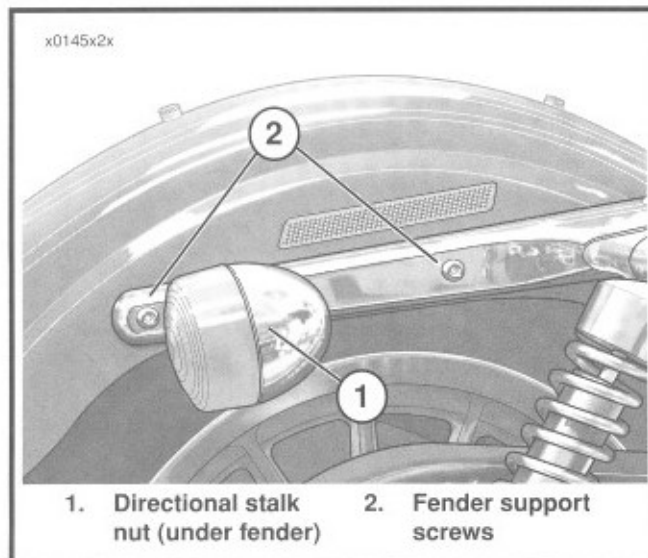

Figure 2-90 Rear Fender, Strut Cover and Directional Lamp Assembly
3. See Figure 2-90. Remove rear directional stalk nut and T-spacer from inside rear fender (both sides). Remove two fender support nuts, screws and T-spacers (both sides). Move chrome steel strut covers away from rear fender.
16. See Figure 2-90. Slide directional stalk stud through holes in strut cover, strut and fender. Install nut.